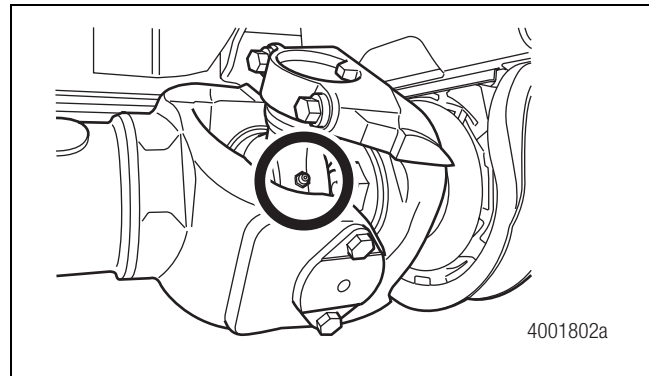

Figure 4.9
1. Check that all grease fittings are installed. Replace missing or damaged fittings. Tighten them to 6 lb-ft (8 N•m). Figure 4.9. **ⓘ**